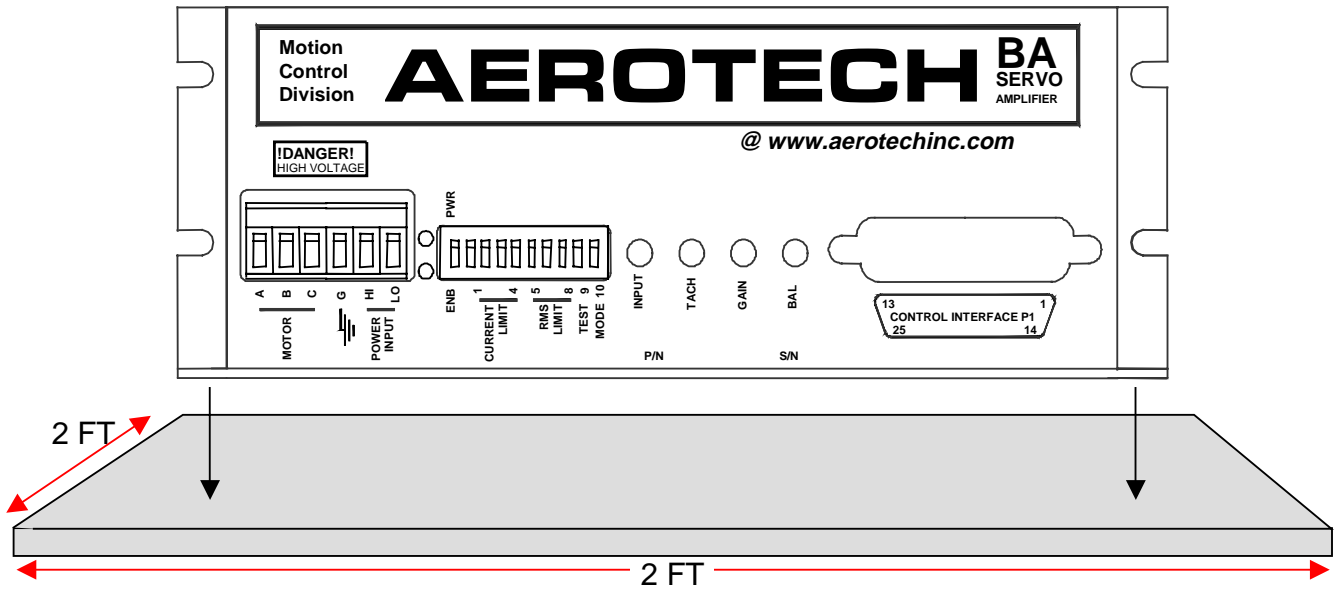

Figure 3-3. Preferred Mounting of BA Amplifiers
1. Use the mounting procedure shown in Figure 3-3. The wider part of the amp should be mounted to the heat sink.
It is advisable that the amplifier be mounted lying flat on a metal panel not less than two square feet for better heat dissipation. Refer to Figure 3-3.